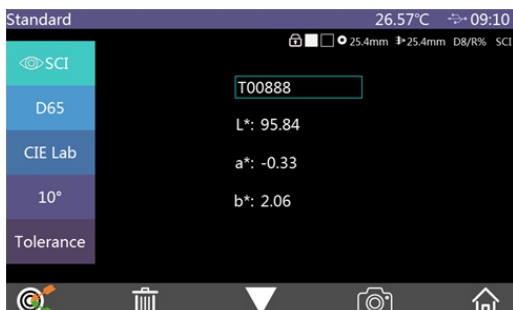
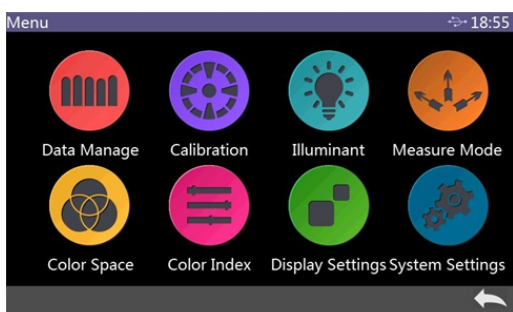
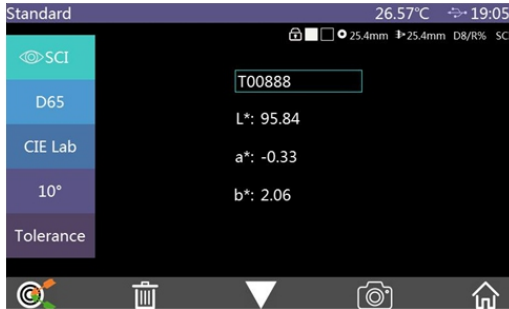
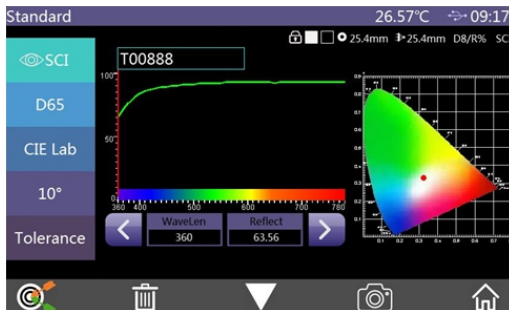

Figure 2 Standard Measurement
Figure 3 Main Menu
Figure 14 Standard Measure Interface
Figure 15 Reflectance Spectrum
1. In Figure 2 standard measurement interface, click , or in other interfaces click , or , to enter into Figure 3 main menu, as shown in the following figure.
- 1, Enter into main menu as shown in Figure 3, click “Calibration” to enter transmission black calibration. Place the transmission black plate into transmission sample bin and stick it to the side of integrating sphere tightly, close the cover, and click the test key to start calibration.
When above preparation is finished, enter Standard Measuring Interface (Figure 2), the measured sample is placed cling to the reflective measurement aperture of the instrument. The buzzer emits the sound of "beep" when the measuring key is pressed shortly. At the same time, the LED indicator flashes until the flashing stops, the buzzer emits the sound of "beep" again, then the measurement is finished. After it, the interface is shown as in Figure 14 and Figure 15. The following is a detailed description of the standard measuring interface.